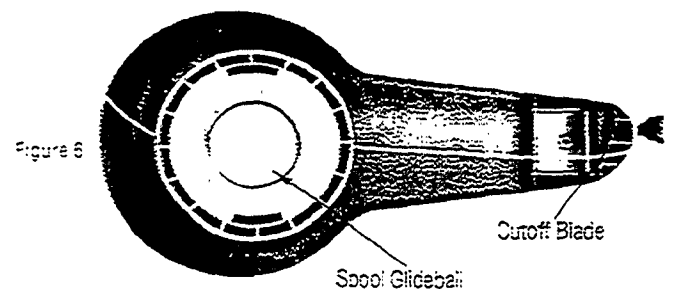

Figure 6
### 3. BEFORE EACH USE: (Figs. 6, 7, & 8)
- Stretch cutting line to cut-off blade (Fig. 6). If line extends past cut-off blade, cut off excess just short of the cut-off blade. **NOTE:** Cut-off blade is sharp, take special care when working near it.